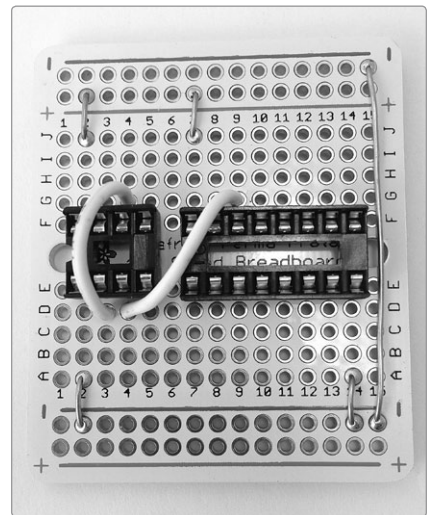

FIGURE 16-11: The seven jumpers on your Bleepbox circuit board
Step 10 Now, add the jumpers shown in Figure 16-11. There are seven: two insulated flyovers and five bare bus connections. Start with the flyovers. Cut two 1 1/2-inch lengths of insulated wire. Use solid core insulated wire if you have it; otherwise, use stranded wire. Strip both ends of each wire, tin them if your wire is stranded, and then run one wire from 3D to 4G over the 8-pin socket, connecting its pin 2 to its pin 6. Run the other wire from 4D to 9G, connecting pin 3 on the 8-pin socket to pin 14 on the 16-pin socket. Solder all four ends of these two wires now.